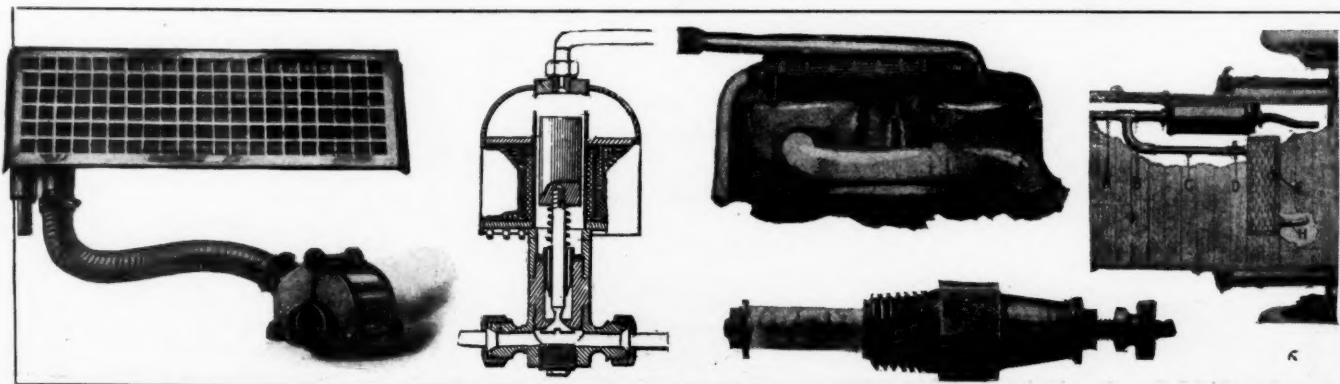

Fig. 1—Four-in-One auto heater. Fig. 2—Duelec electric primer. Fig. 3—Consolidated motor heater. Fig. 4—Stalit heating plug. Fig. 5—Garrison car heater
**Four-in-One Heater**—The heater shown in Fig. 1 is designed for either open or closed car use and is operated by using the waste heat of the exhaust gases. It consists of a heater valve that is placed in the exhaust line and which diverts some of the hot gases through the heating coils located in the car. Connection between the valve and the heater is through a large diameter flexible piece of tubing and the coils are suitably covered by a metal grating. The construction of the heater valve and the method of regulating the amount of heat is interesting. At the entrance to the pipe leading to the heater there is a rotating disk valve with ports in it that register with similar ones in the valve casing. Rotation of this disk is accomplished by a rotor that is operated by the exhaust gases impinging on its blades. When desired, two heaters can be operated from the one valve, a special branch connection being furnished for this purpose. Two heaters are generally used on open touring cars, one for the front seat and the other for the rear. The radiators can be located either in the car floor or in the seat panel under the seat. The installation of the valve is accomplished by cutting a section out of the exhaust pipe at any convenient place slipping the ends of the pipe into inlet and outlet nipples of the valve and tight-